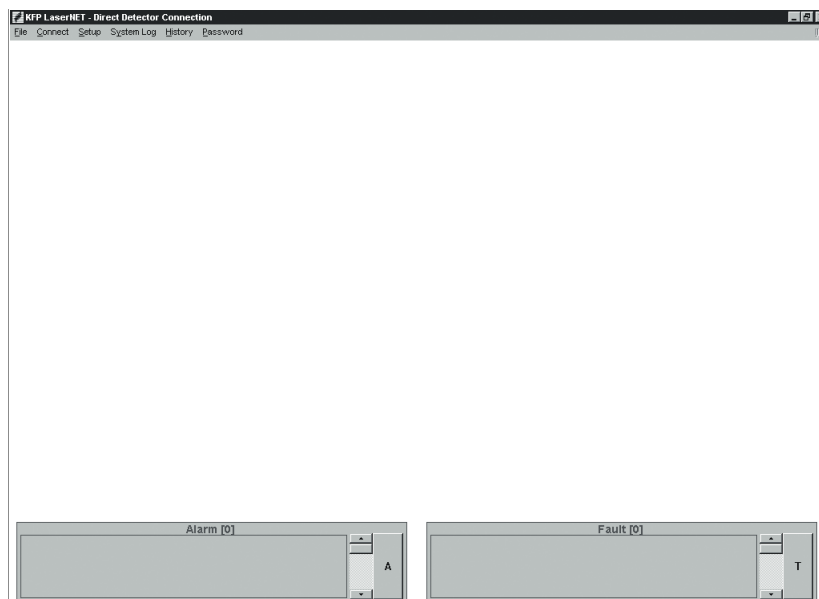
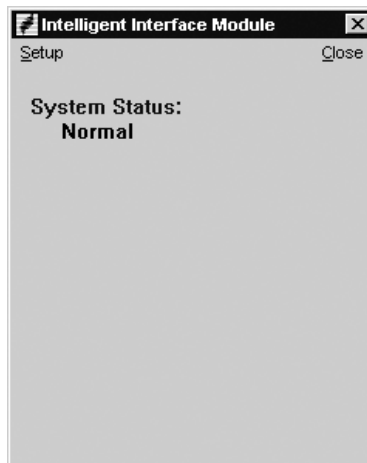

Figure 3-5. LaserNET Main Screen
Figure 4-1. IIM Window
The main screen displays as shown in Figure 3-5.
The IIM window displays the status of the IIM (Figure 4-1). To open the Intelligent Interface Module window, select **IIM** from the upper right hand corner of the LaserNET main menu bar. The computer must be communicating with the IIM to access this window in either the Local or Remote mode. This screen is available without entering a password. The Setup Menu is only available in Local IIM mode and requires an installer password.
2. Select **IIM** from the main screen. The Intelligent Interface Module window opens, as shown in Figure 4-1.
1. Select **Setup>Detectors** from the main screen that is referred to in Figure 3-5 (not the Intelligent Interface Module screen of Figure 4-1). The Detectors window opens, as shown in the next figure.
1. Select **IIM** from the main screen. The Intelligent Interface Module window opens as shown in Figure 4-1.
1. Select **IIM** from the main screen. The Intelligent Interface Module window opens, as shown in Figure 4-1.